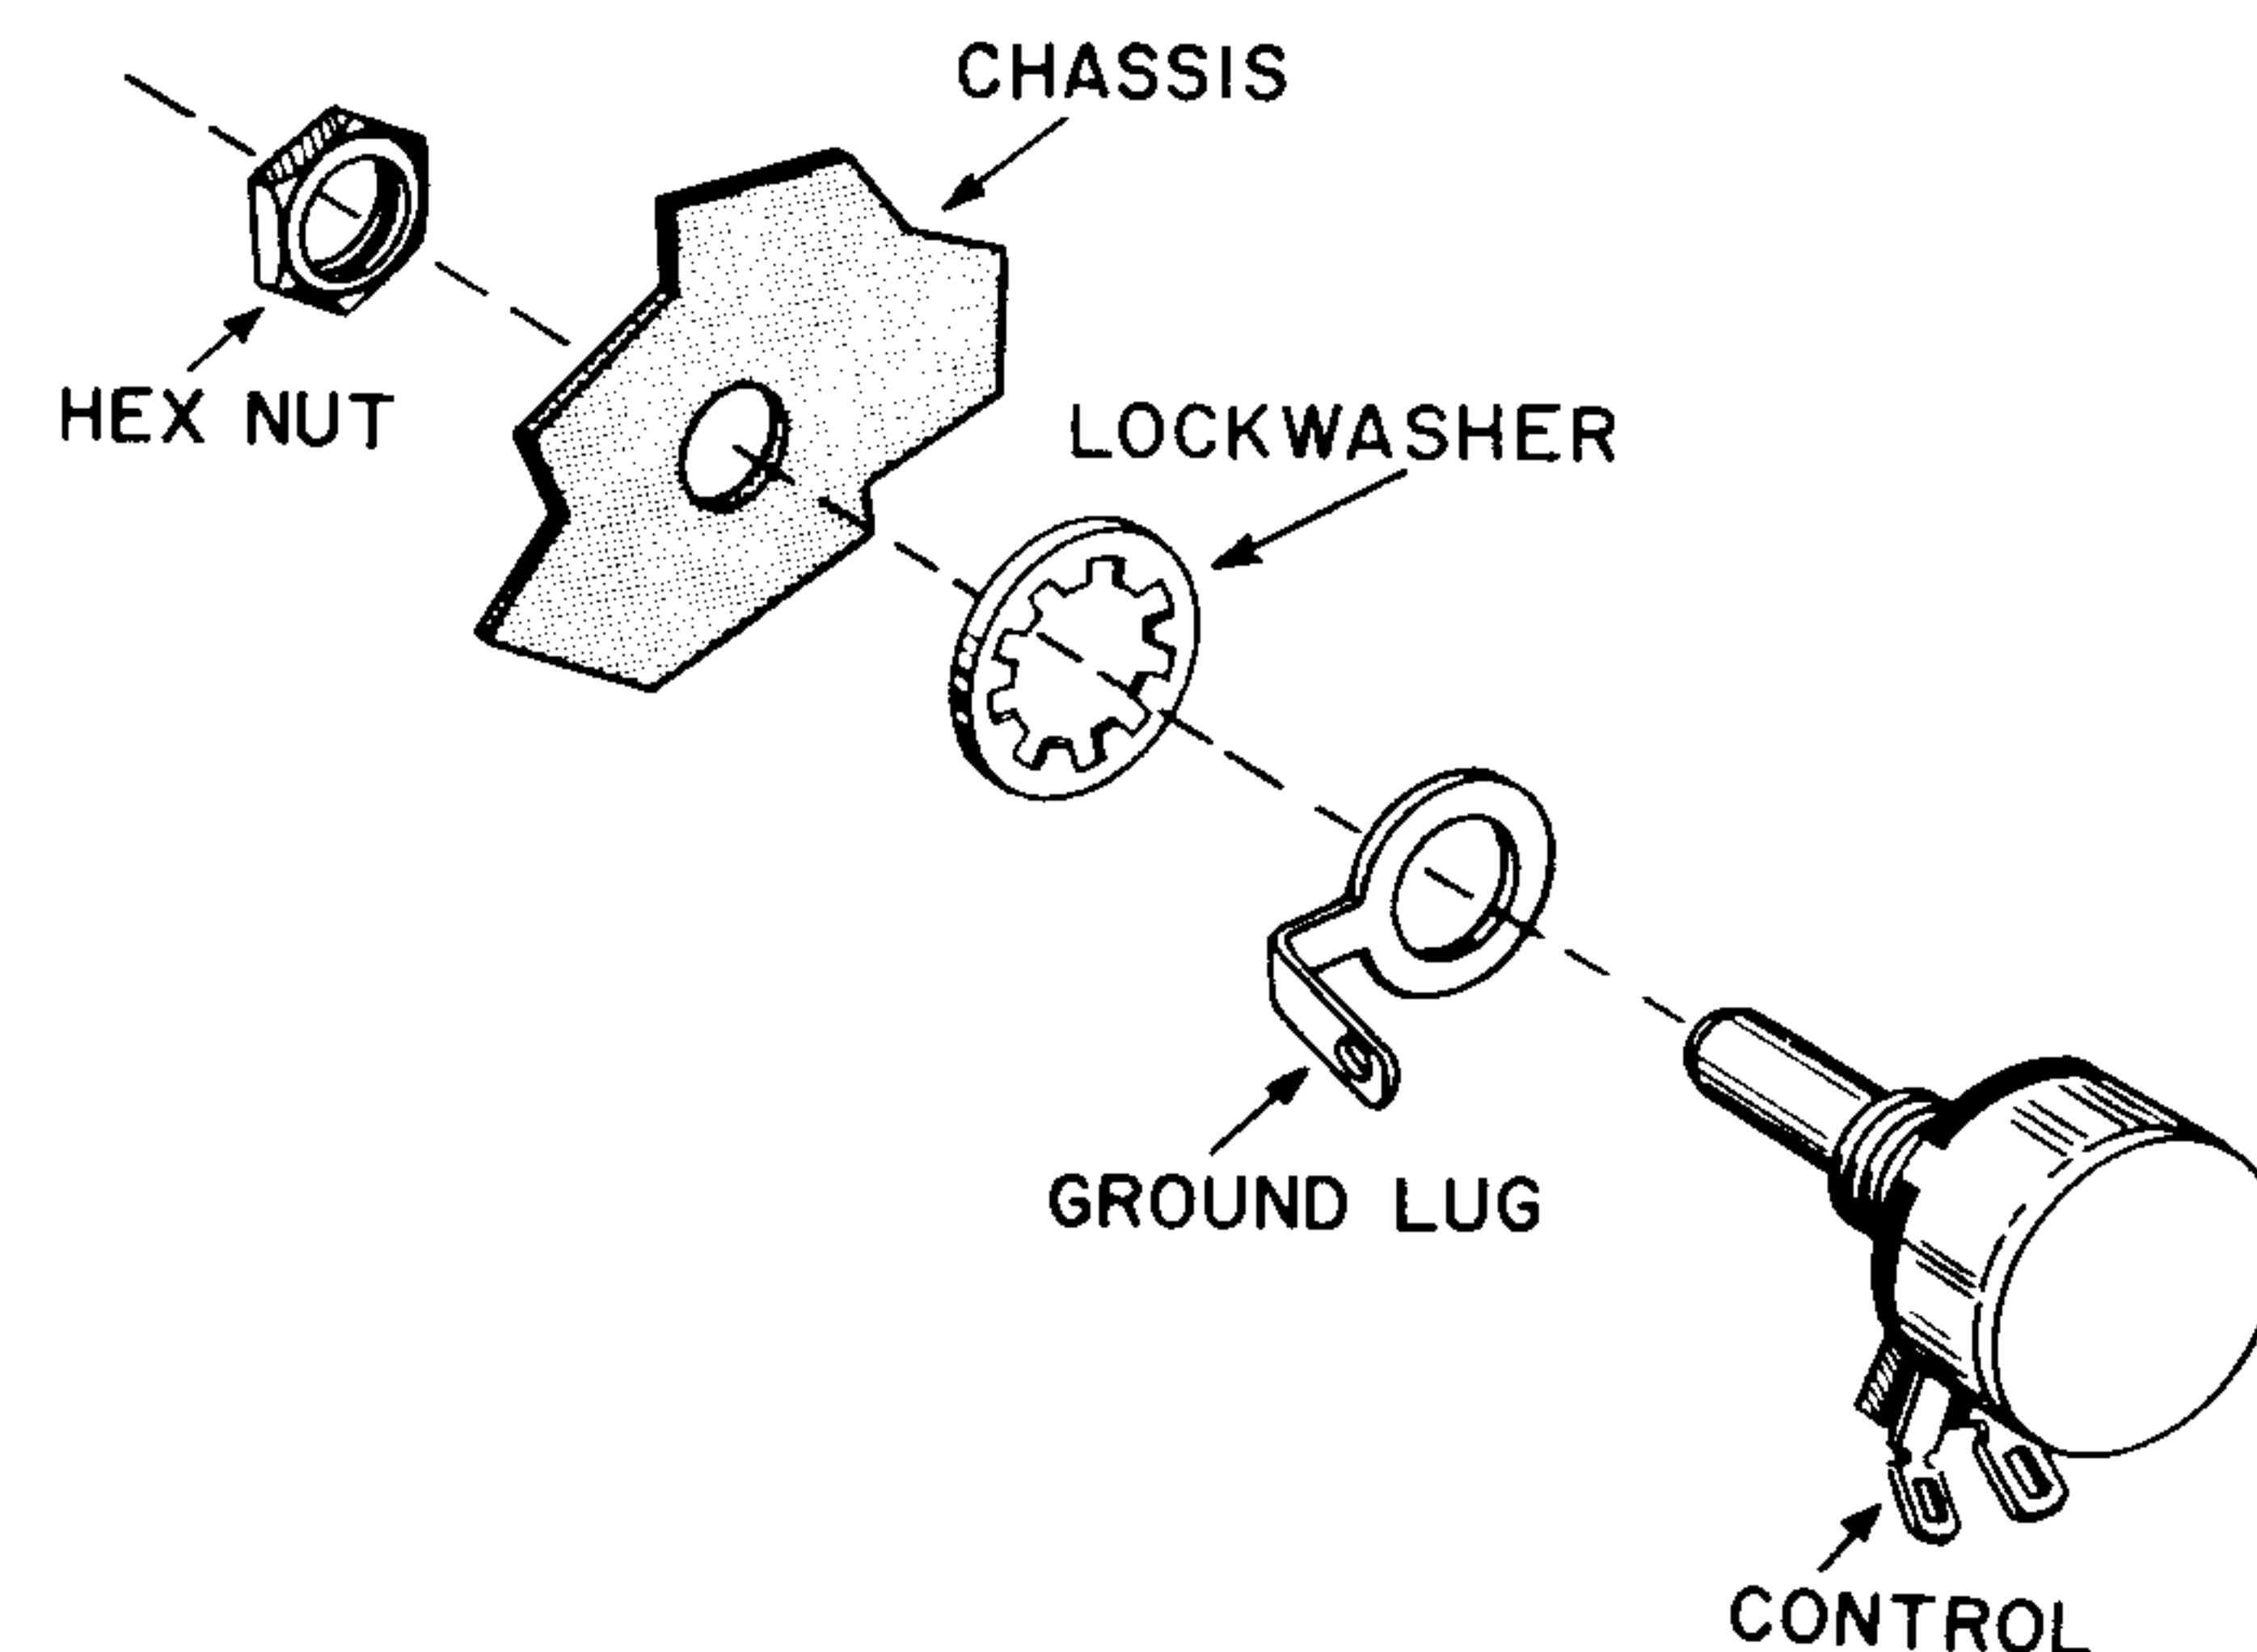

FIGURE 5. HOW TO MOUNT A CONTROL USING A GROUND LUG
- ☐ From inside the chassis, mount R-24, the 10K Ω QX SELECTIVITY control, with one $\frac{3}{8}$ " ground lug, lockwasher and nut as shown in Figure 5. Position the terminals as shown in Figure 3.